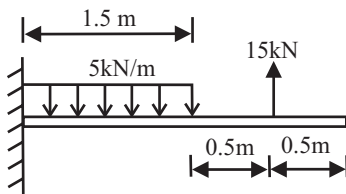

Fig 8.46
In the fig 8.46,
Q. 20: What force and moment is transmitted to the supporting wall at A in the given cantilever beam as shown in fig 8.46. (May-02-03)